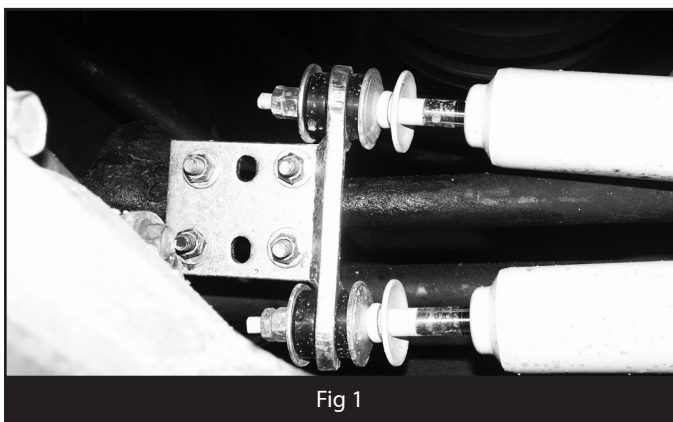

Fig 1
3. Install bracket (01503) with 3 u-bolts (5/16" x 1-1/4" x 2"), washers, and nuts. Do not tighten at this time. (Fig. 1)